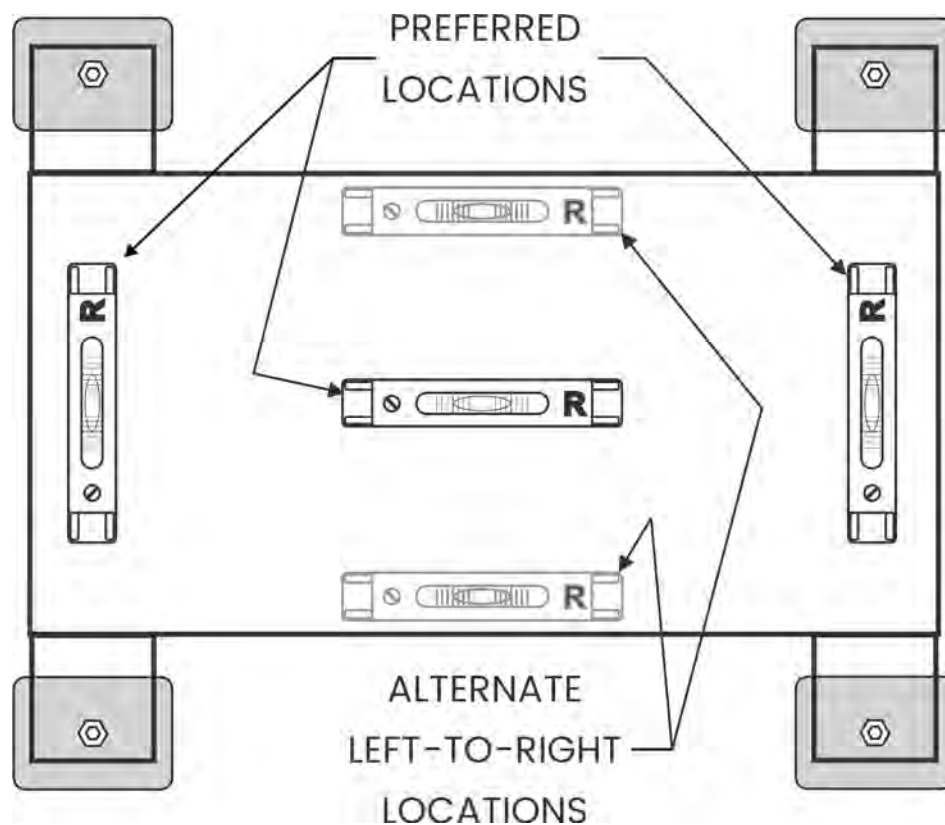

Figure 15
- Determine the leveling locations as specified in the service manual supplied by the machine builder. In the absence of a service manual, we suggest the locations as shown in Figure 15.